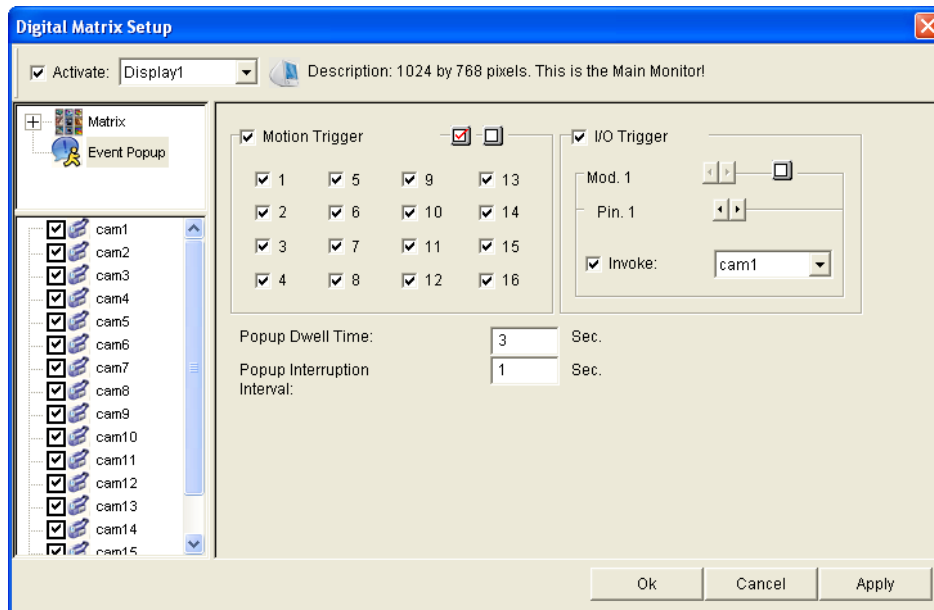

Figure 3-55
2. To configure pop-up alert, in the upper left column, click **Event Popup**. Figure 3-55 appears.